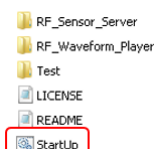

Figure 1: Start up in directory
- Locate and double click the "StartUp.bat" file located in the "RF Sensor Test Harness master" folder as shown in Figure 1.